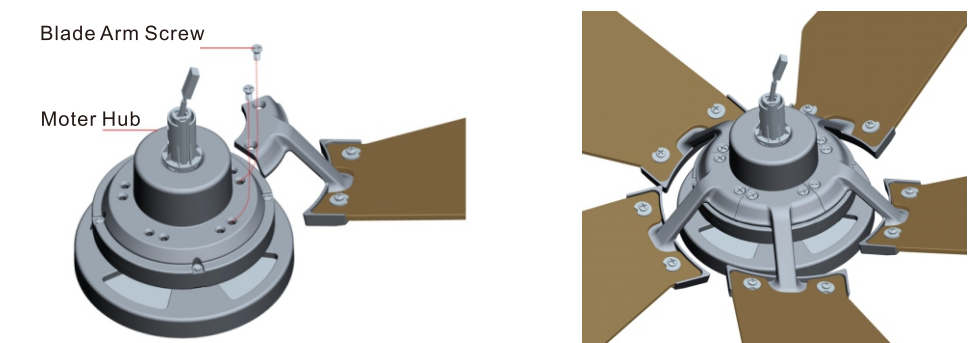

Fig 2.1
- 2.1 Fix each prepared blade arm to the motor assembly with blade arm screws as shown in Fig 2.1.